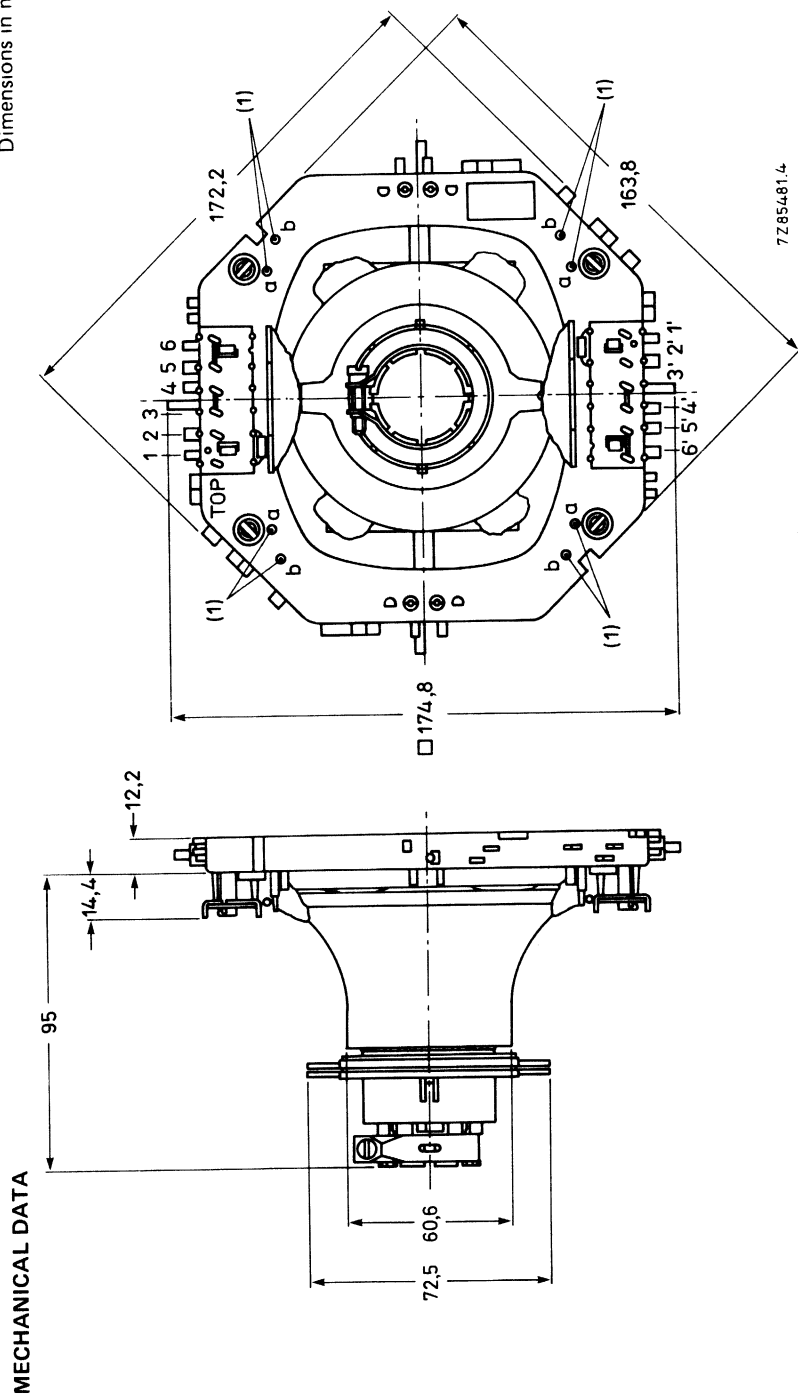
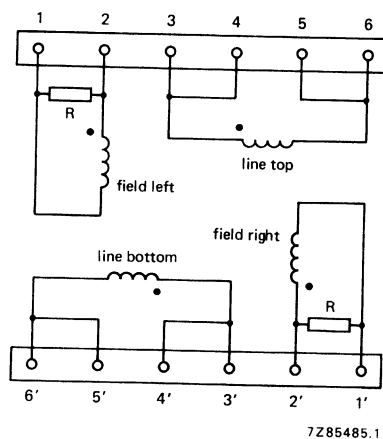

Fig. 1 Deflection unit AT1037/01.
Fig. 2 Diagram of line and field coils; $R = 270 \Omega$. The beginning of the windings is indicated with •.
If a further improvement of raster geometry is required use can be made of correction magnets*, which must be fitted to mounting posts (1). The unit has solder pins for connection. The pin numbering in Fig. 1 corresponds to that in Fig. 2.